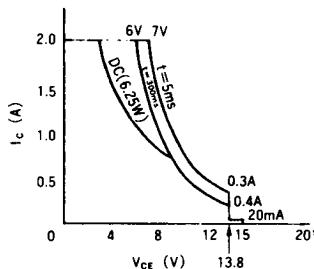
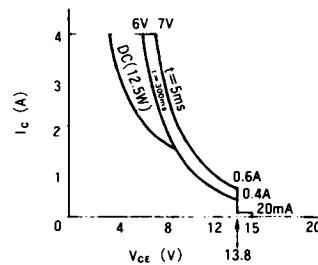

Figure 1 HA13471
Figure 2 HA13472
3. The operating locus for all output transistors should not exceed the ranges shown in figure 1 or figure 2.